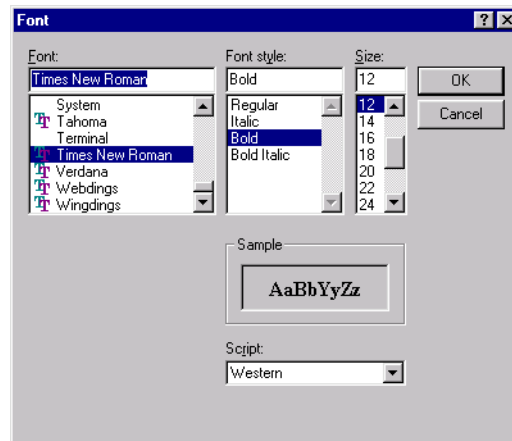

Figure 6-5: Font Window
1. Click the Set Font button to open the Font window (Figure 6-5).
6. Click the Set Font... button to open the Font window (Figure 6-5).